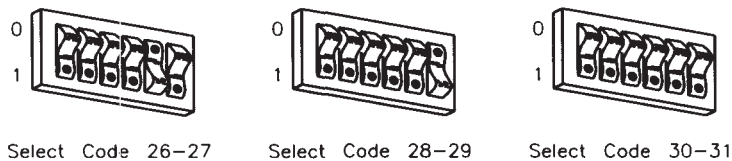

Figure 5-42.
- b. To use the Graphics Display Station as a graphics output device *only*, you need to set the switches to an external addressing mode. Set these switches to one of the three select codes given in Figure 5-42, unless you have used them elsewhere. Refer to the installation note that came with the interface if you need additional switch settings.